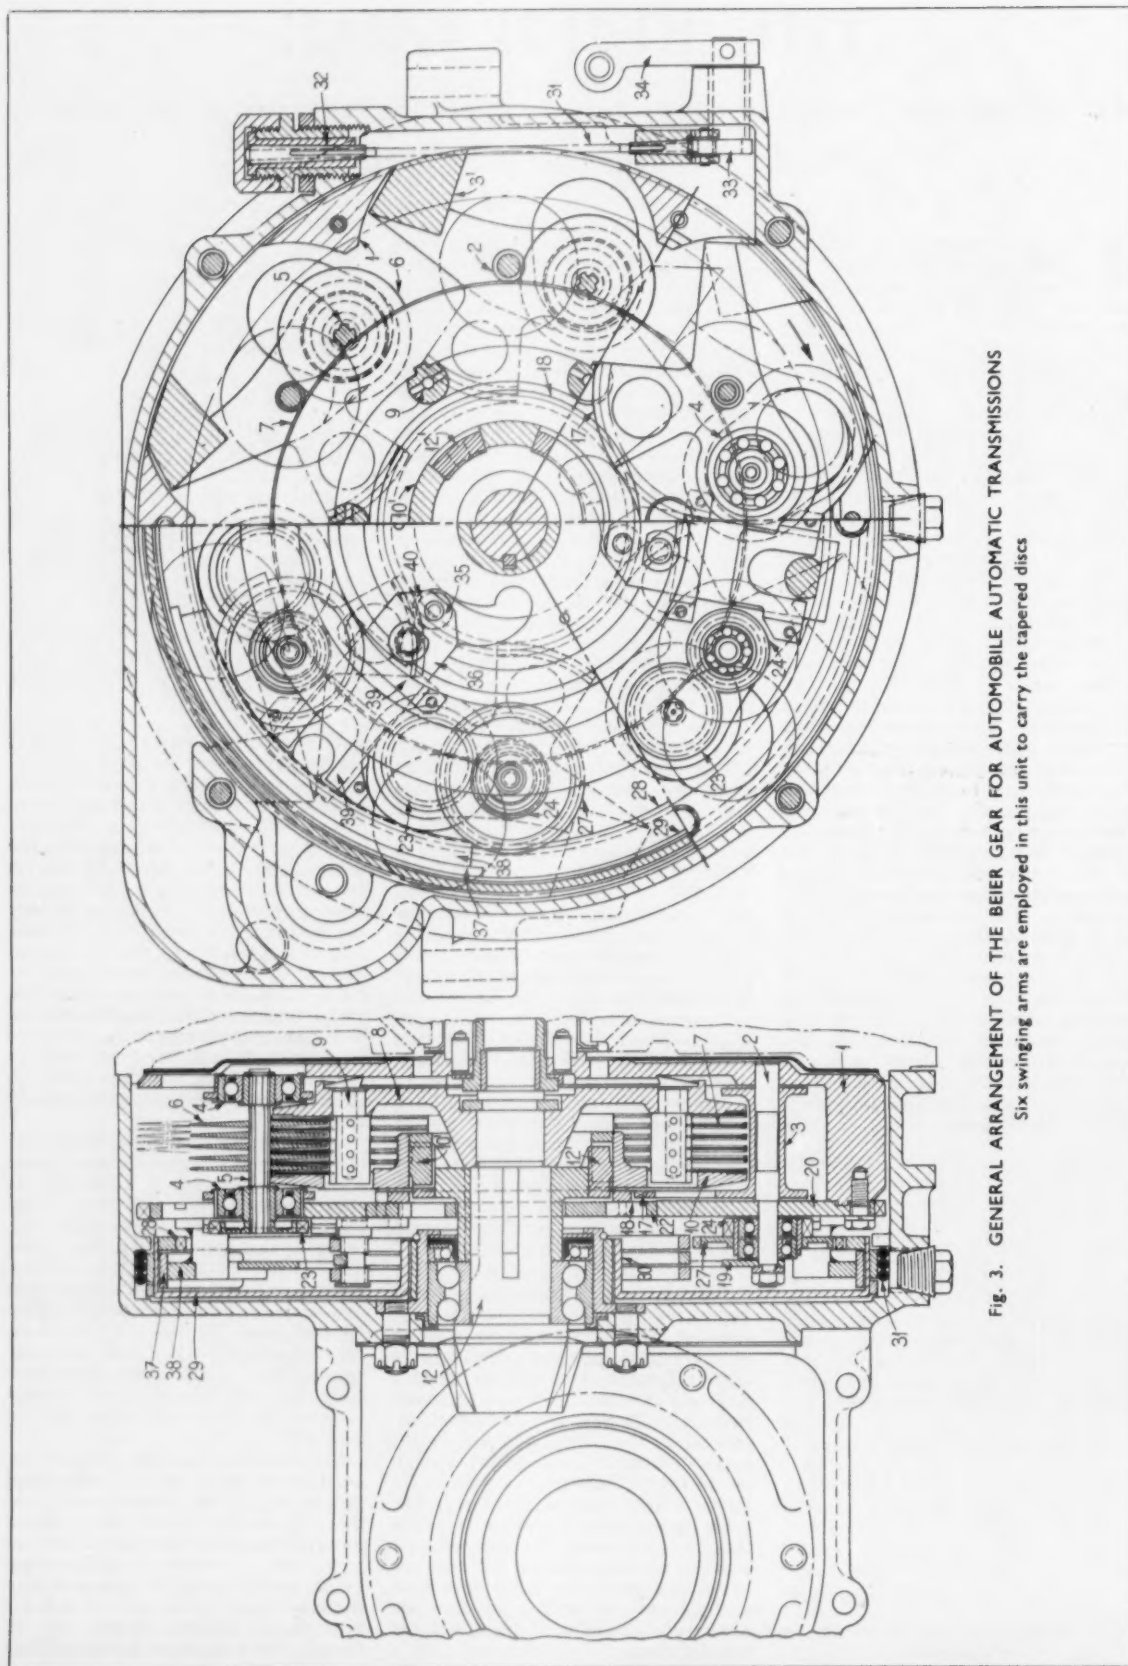
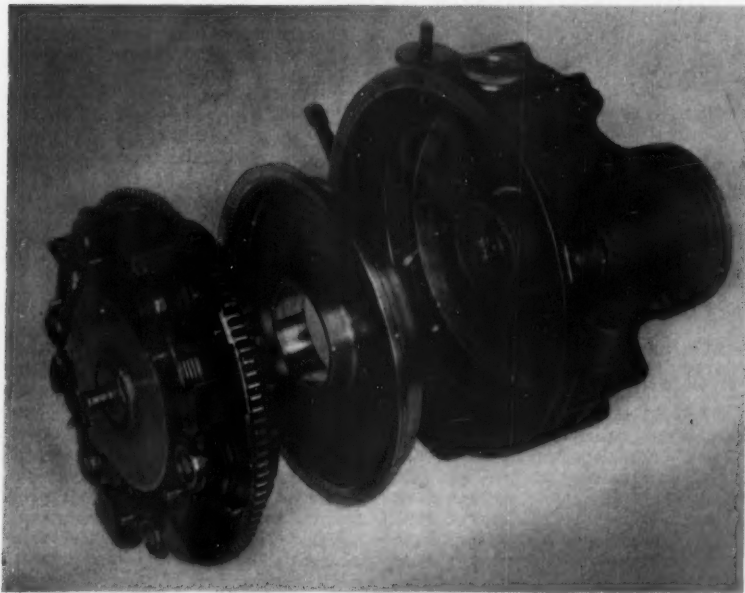

Fig. 3. GENERAL ARRANGEMENT OF THE BEIER GEAR FOR AUTOMOBILE AUTOMATIC TRANSMISSIONS
Fig. 4. The main components of a Beier automobile type gear, showing how they fit into a flywheel casing
A general arrangement drawing of a unit designed for a rear engine car is shown in Fig. 3. For an engine developing 25 b.h.p. at 3,000 r.p.m., the diameter of the transmission of this type is about 12 in. Another transmission assembly has been designed to fit into a flywheel housing, about 22 in. diameter by 9 in. axial length, for a bus engine developing 140 b.h.p. at 2,000 r.p.m., Fig. 4. The assembly illustrated in Fig. 5 is another variant of the transmission, with the cover removed.
From Fig. 3, it can be seen that each set of tapered discs (6) is mounted on a splined shaft (5), which runs in ball bearings (4). Each splined shaft is carried at one end of a swinging arm (3). The swinging arms are pivoted on the pins (2), which are mounted in the flywheel (1). At the other end of each swinging arm there is a counterweight (3'), which not only balances the centrifugal force due to the mass of the set of tapered discs, but is of large enough mass to force the tapered discs inwards toward the axis of the transmission with a force that increases as the engine speed rises. The tapered discs (6) intermesh with flanged discs (7) which are concentric with the axis of the transmission and are carried on the key-pins (9) fixed in the end disc (8). These key-pins also register in the other end disc (10). The end discs are free to rotate relative to the output shaft (12), except in so far as they are constrained by a face cam (10') secured to the disc (10). This cam engages with a counter cam (12') fixed to the output shaft. The end discs, driven by the pins (9), rotate with the flanged discs, and the torque is transmitted to the output shaft through the face cams.
When the car is stationary and the flywheel, and with it the pivot pins, are rotating at idling speed in the direction of the arrow, Fig. 3, the tapered discs are held in the outermost position by the pressure of the face cams (10') and (12'). If necessary, this pressure can be augmented by a suitable compression spring, acting on the flanged discs. Since the car, and therefore the flanged discs, is at rest, the internal ring gear (28) also rotates freely in a clockwise direction (provided the free-wheel is released). As soon as the engine is accelerated by opening the throttle, the counterweights force the tapered discs inwards.